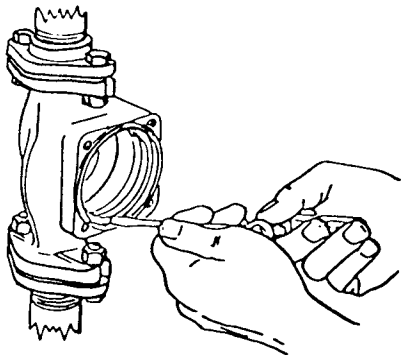

FIG 4. Cleaning off gasket area
- 6 Remove and discard old gasket. Clean off area in pump body (**FIG. 4**).